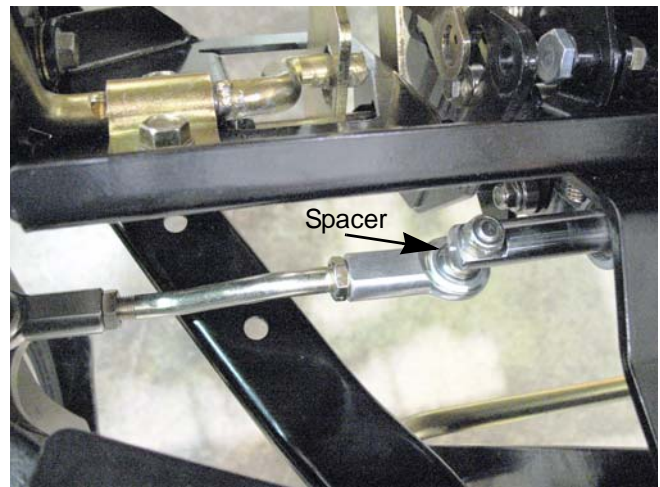

Figure 6.24
12. Attach the tie rods to the steering rack. See Figure 6.24.